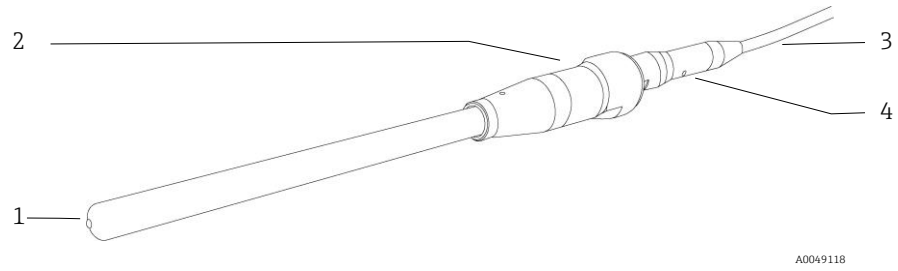

Figure 2. Non-flanged configuration of the Rxn-40 probe
- Integrated stainless steel fiber connection shell option (Figures 2, 3 and 4 below): The indicator is located on the fiber connection shell. When there is potential for the laser to be energized, the indicator light is illuminated.